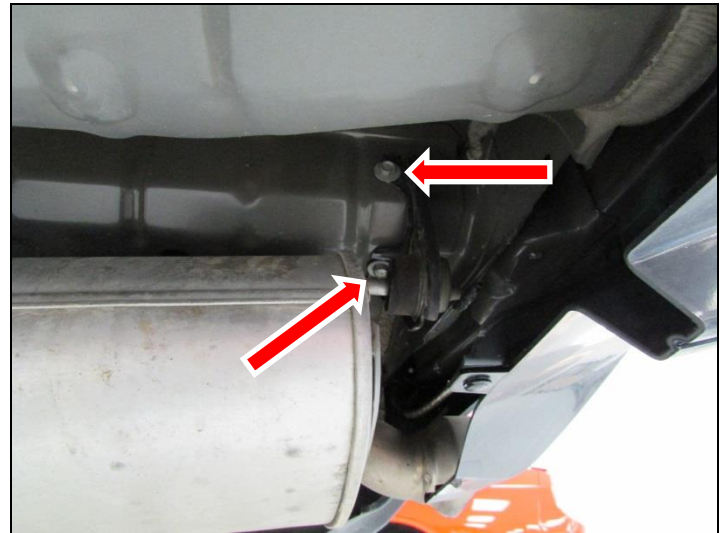

Figure 6
9. Remove the (x2) 13mm head bolts securing the right side rear OE muffler isolation mount bracket to the chassis. Remove the right side OE muffler section (**Figure 6**).